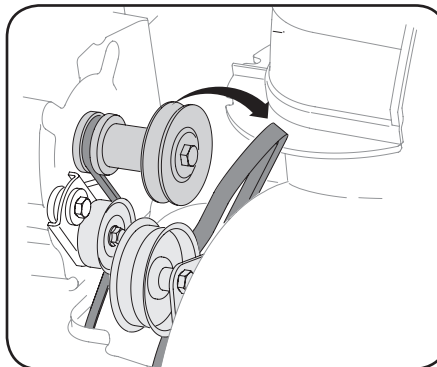

Figure 4-16
3. Roll auger belt off engine pulley. See Figure 4-16.